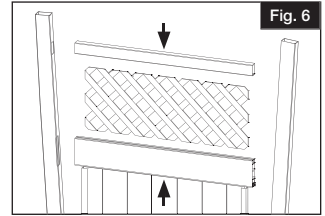

Fig. 6
- a.) For lattice top gates, insert lattice panel into the middle rail and place top rail on top of lattice panel. Insert top rail into upright route on same side as bottom and middle rails (Fig. 6)